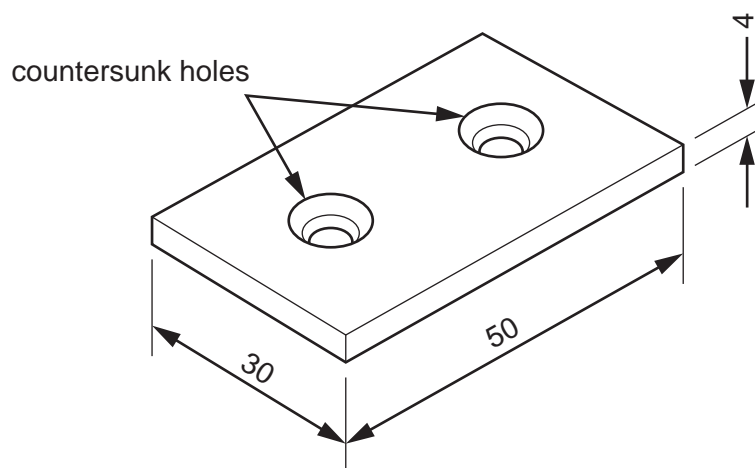

Fig. 3
- (c) Fig. 3 shows a metal plate.